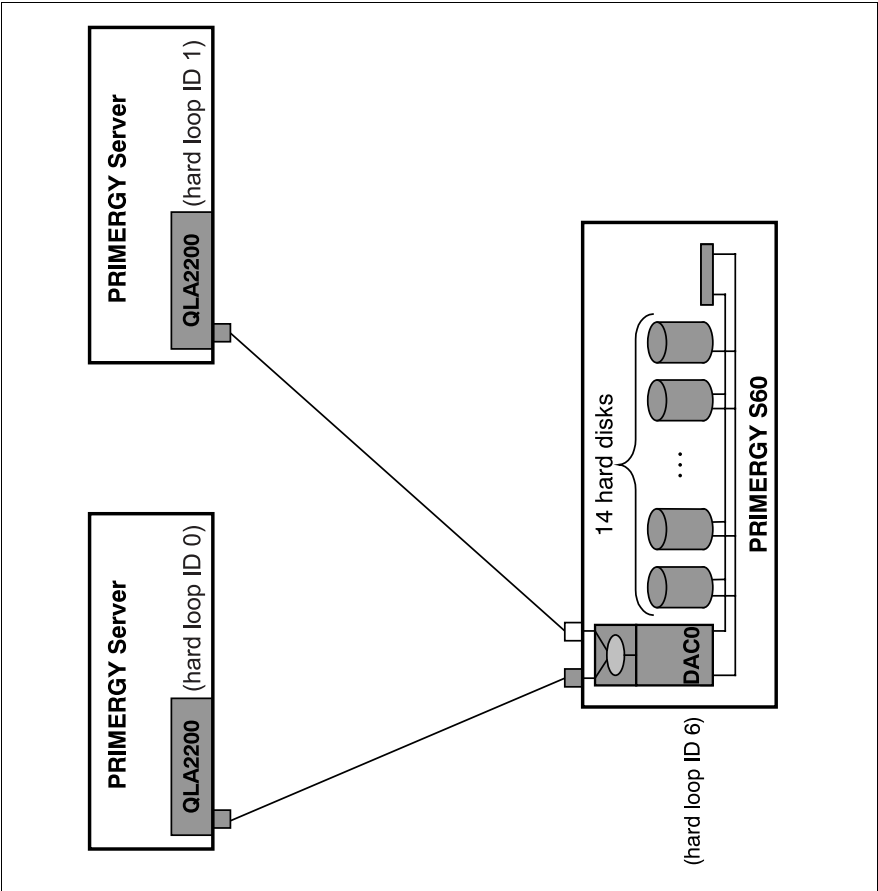

Figure 27: SAN Mapping without External HUB/Switch
- Loop IDs (see figure 27 on page 40)